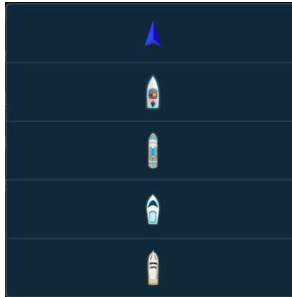

Figure 25 - Ownship Symbol.
- Ownship Symbol: The display symbol of ownship can be set to any of the five styles shown in Figure 25.